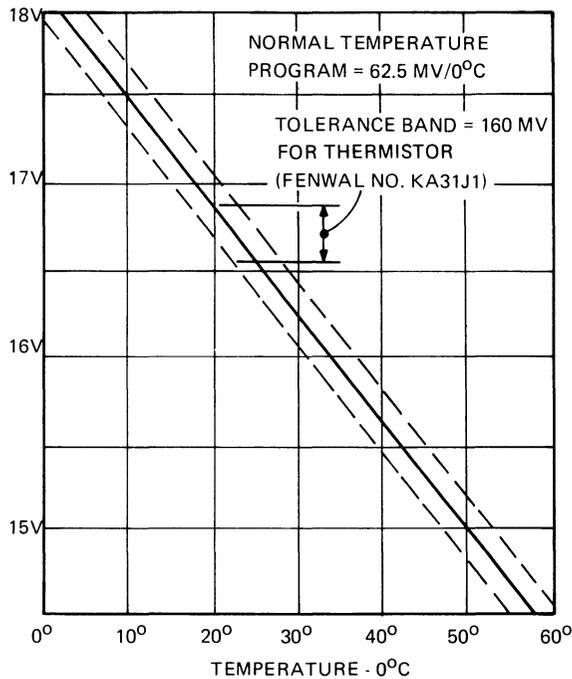

Figure 9. Thermistor Temperature Program
2. Ensure that P15 and N15 are tracking according to the graph in Figure 9.